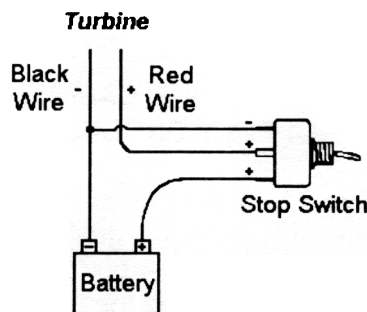

Figure 2 Stop Switch Wiring
- When performing periodic inspections, or at anytime when you must approach the path of the blades, disconnect the power leads from the battery and tie the wind turbine output leads together to stop (*slow down*) the blades from rotating. The turbine can also be shut down through the use of a stop switch. Please refer to Figure 2 on page 12 on how to install a stop switch in your system.